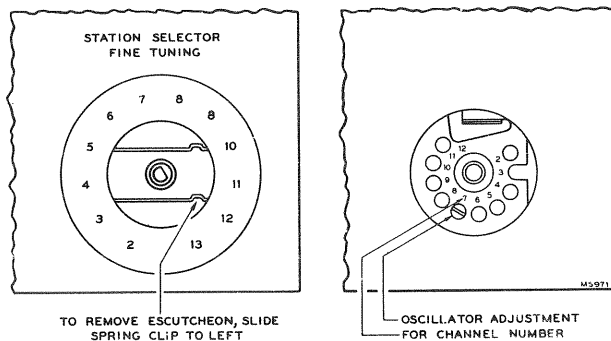

Figure 4—R-F Oscillator Adjustments
**CHECK OF R-F OSCILLATOR ADJUSTMENTS.**—Tune in all available stations to see if the receiver r-f oscillator is adjusted to the proper frequency on all channels. If adjustments are required, these should be made by the method outlined in the alignment procedure on page 10. The adjustments for channels 2 through 12 are available from the front of the cabinet by removing the station selector escutcheon as shown in Figure 4. Adjustment of channel 13 is on top of the chassis.